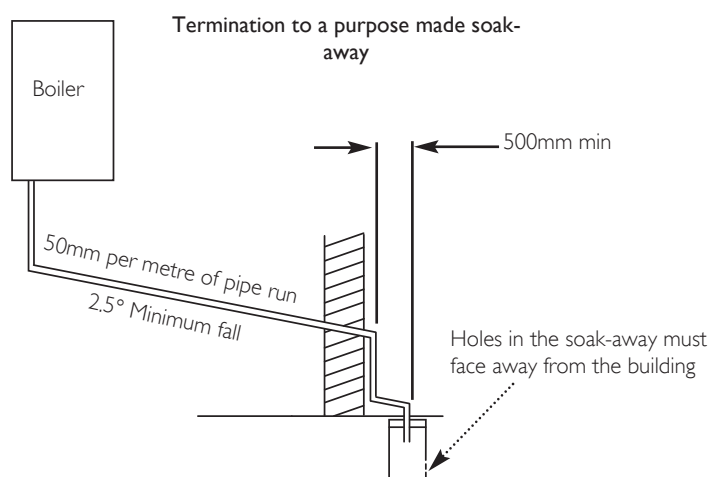

Fig. 16
- iv) to a purpose made soakaway - Fig. 16